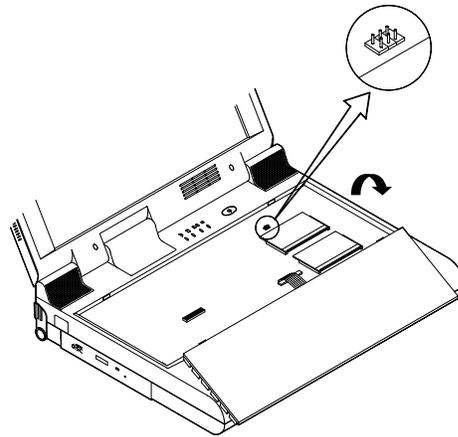

Figure 2-3
3. Carefully lift the keyboard assembly out so that the mainboard is exposed. Adjust the jumper settings (Figure 2-3).